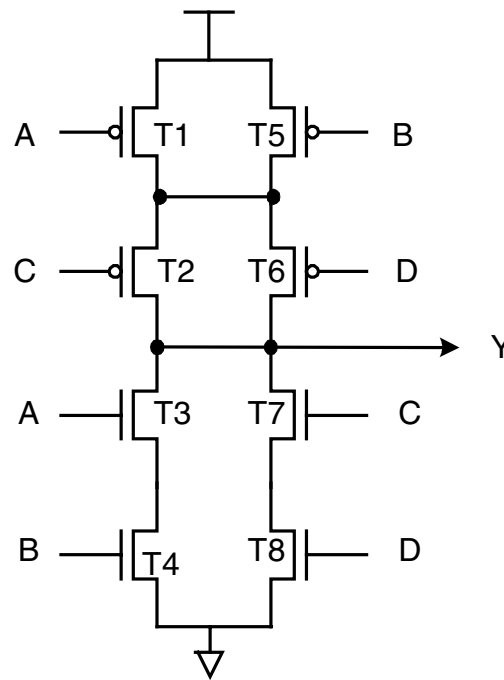

Figure 5
6. a) Deduce the Boolean equation for the circuit shown in *Figure 5*.
c) By using the circuit shown in *Figure 5*, or otherwise, design a transistor-level circuit of a single-bit scan-path register.